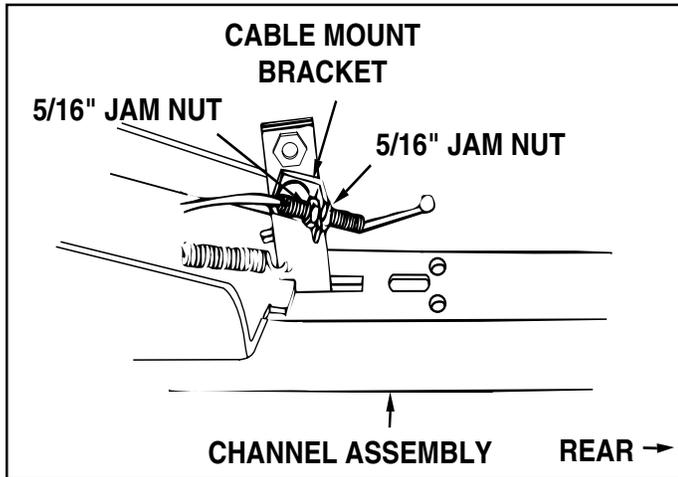

FIGURE 13 (Left Hand Side View)
- Assemble one 5/16 jam nut approximately 3/4" onto threaded end of control cable. Assemble threaded cable end through round hole in cable mount bracket and secure with another 5/16 jam nut. **Tighten.** See figure 13.